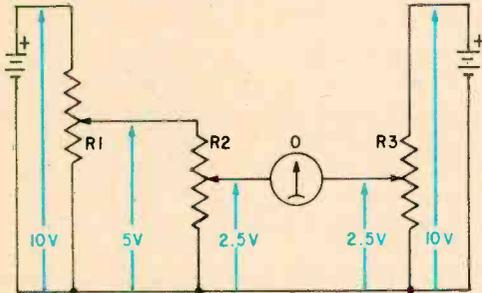

Fig. 1—Multiplication, division. R1 feeds part of 10 V to R2, which feeds part of voltage to M1. M1 zeros when voltages from R2 and R3 are equal.
**How It Works.** The computer consists of two basic circuits. Take a look at Fig. 1 to see how it multiplies and divides. To multiply  $5 \times 5$ , you set R1 to 5 on the dial. This is the center of its resistance range. Since the supply voltage is 10 V, the voltage from the arm of R1 to ground is 5 V. The 5 volts goes to R2. Since R2 also is set at its midpoint, the voltage is again divided. That is, 2.5 volts now appears from the arm of R2 to ground. This voltage is the answer to the problem; however, you have to shift the decimal point mentally.